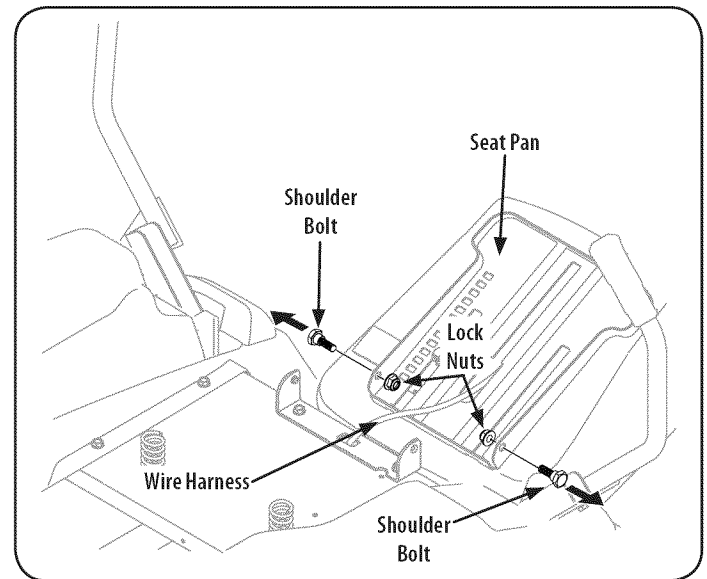

Figure 2
2. Remove the two shoulder bolts and lock nuts in the seat pan as shown in Figure 2.